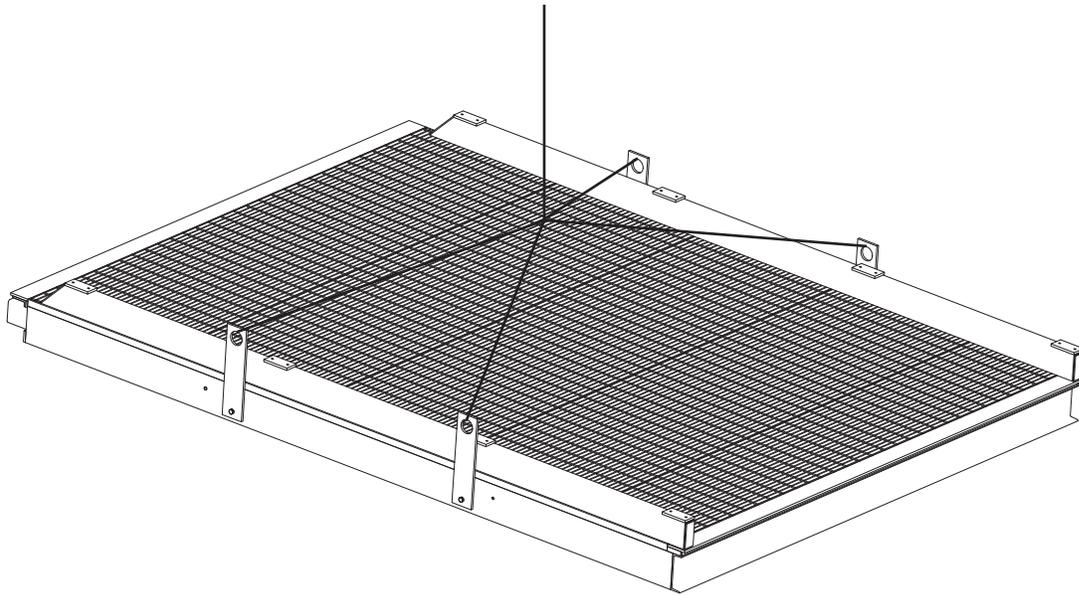

Figure 5
4. Have four (4) blocks at least 8" (203.2 mm) tall and able to hold at least 2000 lbs (1000 kg) of weight to set the Bascule Bridge on once it is unloaded from the transport vehicle.
7. Attach lifting chains to the four lifting holes of the Bascule Bridge (see Figure 5) and to a lifting device (i.e., hoist) having the appropriate lifting capacity and reach.